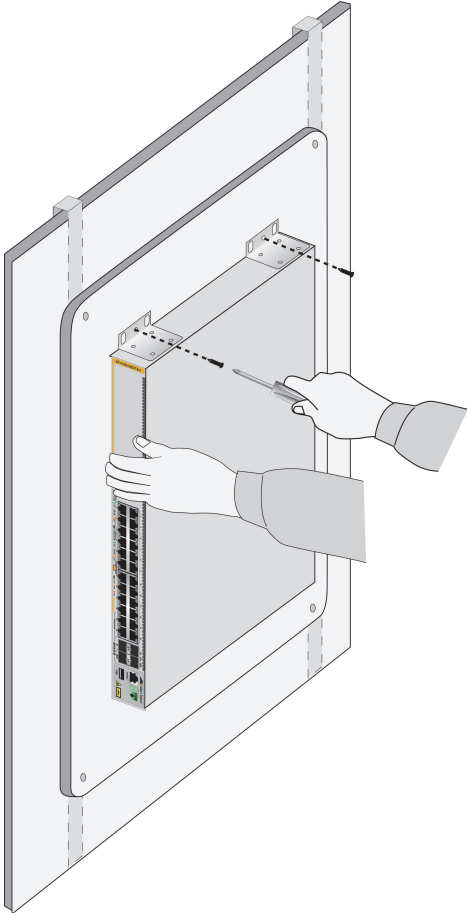
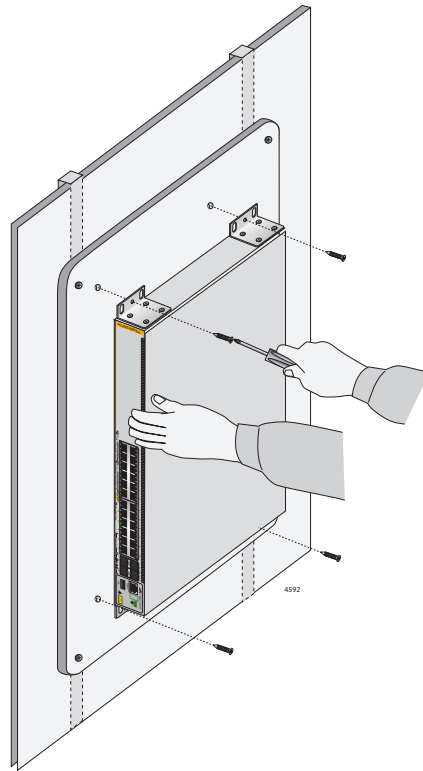

Figure 37. Securing the x530-28GTXm or x530-28GSX Switch to the Plywood Base
Figure 38. Securing the x530-10GHXm, x530-18GHXm, x530-28GPXm, x530-52GTXm or x530-52GPXm Switch to the Plywood Base
3. After attaching the brackets, have another person hold the switch on the plywood base on the wall while you secure it with the M4x32.3mm screws included with the switch. Refer to Figure 37 on page 91 for the x530-28GTXm or x530-28GSXswitch. Refer to Figure 38 on page 92 for the x530-10GHXm, x530-18GHXm, x530-28GPXm, x530-52GTXm or x530-52GPXm switch.